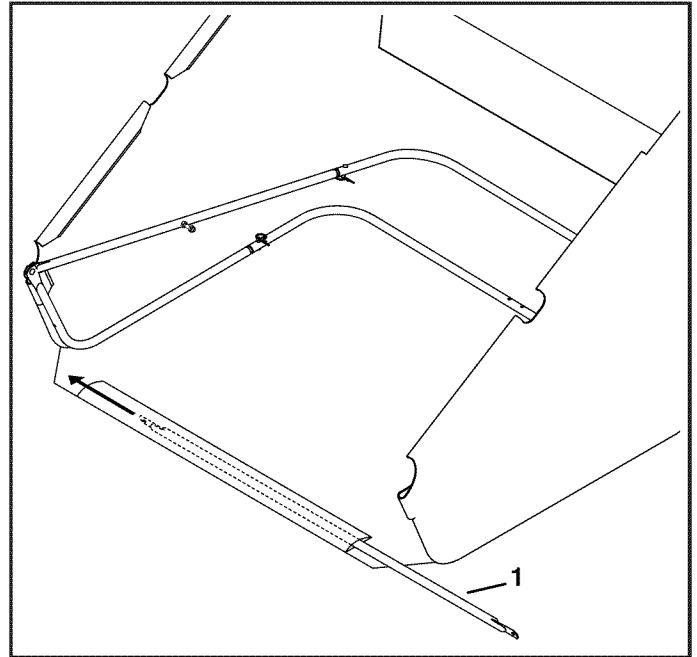

FIGURE 11
STEP 11: (SEE FIGURE 11)
- Slide the bag frame tube (1) through the front flap of the hopper bag.